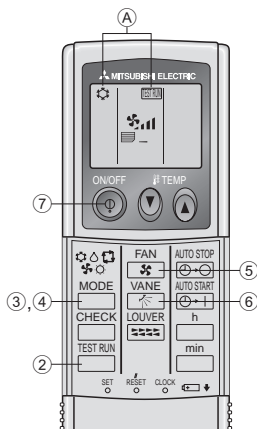

Fig. 7-2
7.2.2. Using wireless remote controller (Fig. 7-2)
- ① Turn on the power to the unit at least 12 hours before the test run.
- ② Press the  button twice continuously.